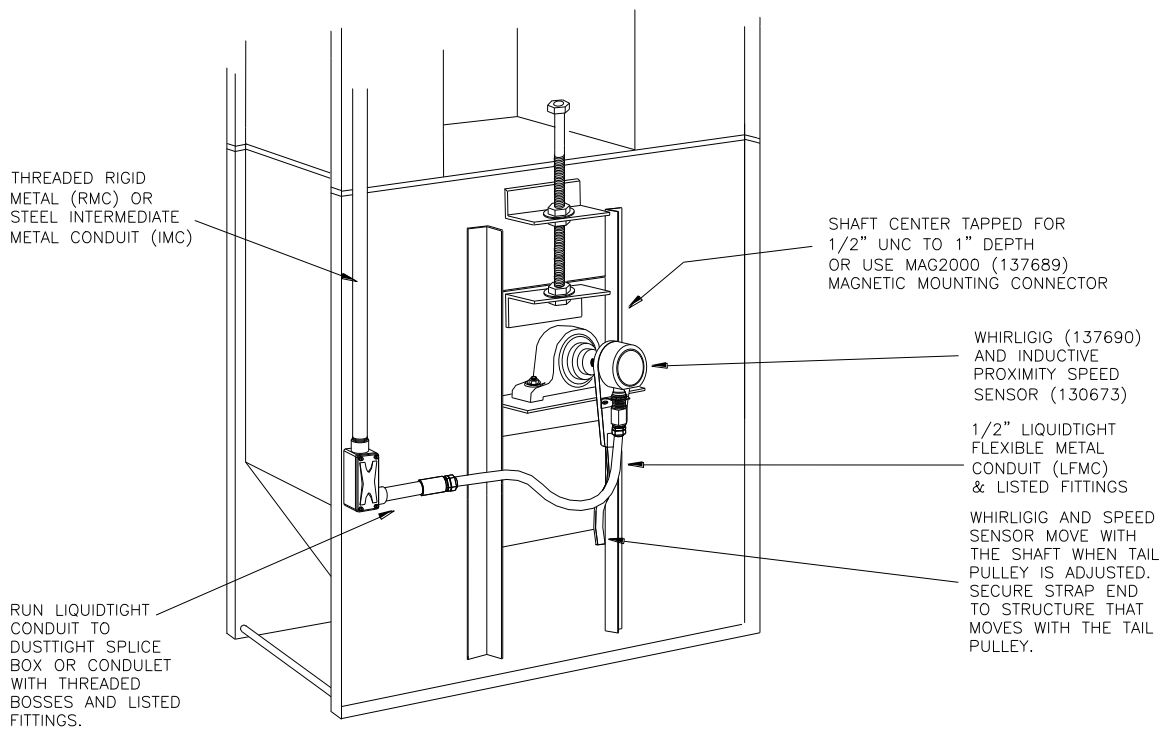

Figure 33. Sensor Mounting on Tail of Elevator Leg
7.3.2.1.2. **SHAFT MOUNTING:** (optional) in cases where the sensor-to-target distance may change over time (such as the Tail end of a Leg where the shaft is adjustable to change belt tension), it may be necessary to use a *Whirligig™ Universal Shaft Sensor Mount* (137690). It provides a more reliable installation of the sensor by ensuring that the distance from the sensor face to the target is fixed regardless of how the shaft position. It provides a bracket to hold the sensor, a target fixed to the shaft, and a guard to cover rotating parts. See Figures 33 & 34.